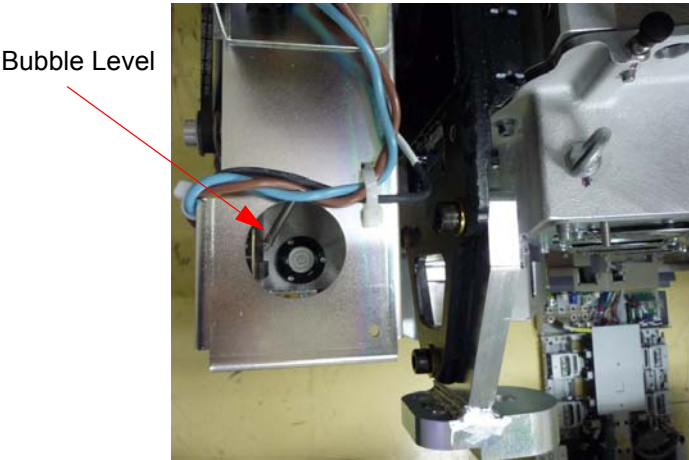
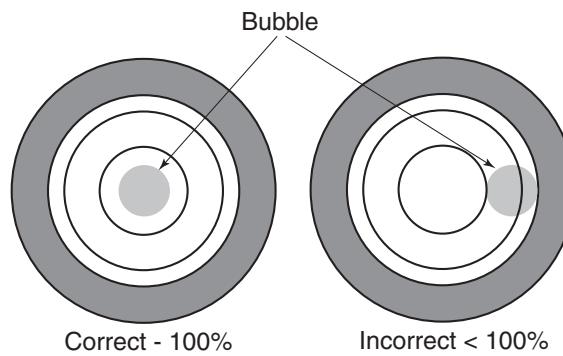

Figure 1-10 Gantry Bubble Level
Figure 1-12 Bubble Level Centering
Bubble levels are located on both ends of the gantry stationary base. They're located on the stationary base near a point where the rotating structure pivots mount to the base structure. (See Figure 1-10.) The gantry is properly leveled when the bubble is centered. (See Figure 1-12, on page 45).
- 3.) When the bubble levels are centered (Figure 1-12), each of the four (4) leveling pads should be carrying a portion of the gantry weight. Distribution of the gantry weight prevents the base frame from rocking during normal operation. **DO NOT leave any adjuster un-loaded or floating.**